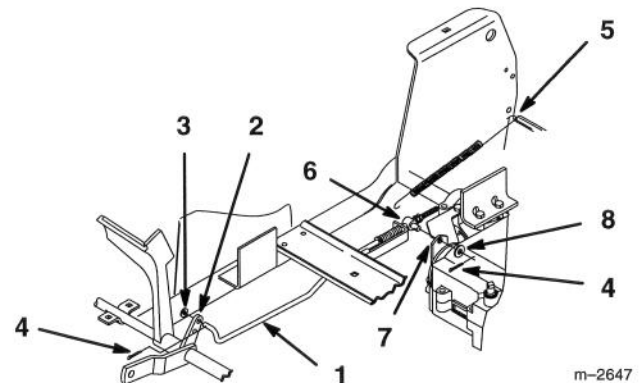

Figure 4
5. Place new brake rod assembly above the lift shaft and slide formed end into brake pedal upper hole (Fig. 4). Secure with 3/8" (9.5 mm) washer and cotter pin. Put cotter pin through from front and wrap ends fully around rod (Fig. 4).
8. Hook open end of brake return spring around back right side of rear frame opening (Fig. 4).
9. Place trunnion through closed loop of the brake return spring (Fig. 4 & 6).
10. Stretch return spring and place trunnion into hole in brake lever (Fig. 4). Secure in place with 13/32" (10.5 mm) washer and cotter pin (Fig. 4).